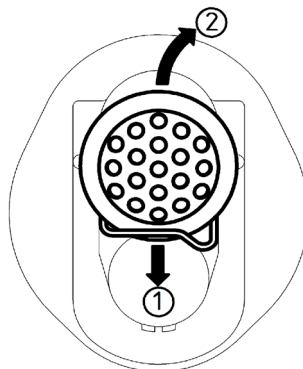

Fig. 7
1. Lower the membrane lock-spring downwards (figure 7, item 1).
2. Pull out the speech membrane by pulling it upwards (figure 7, item 2).